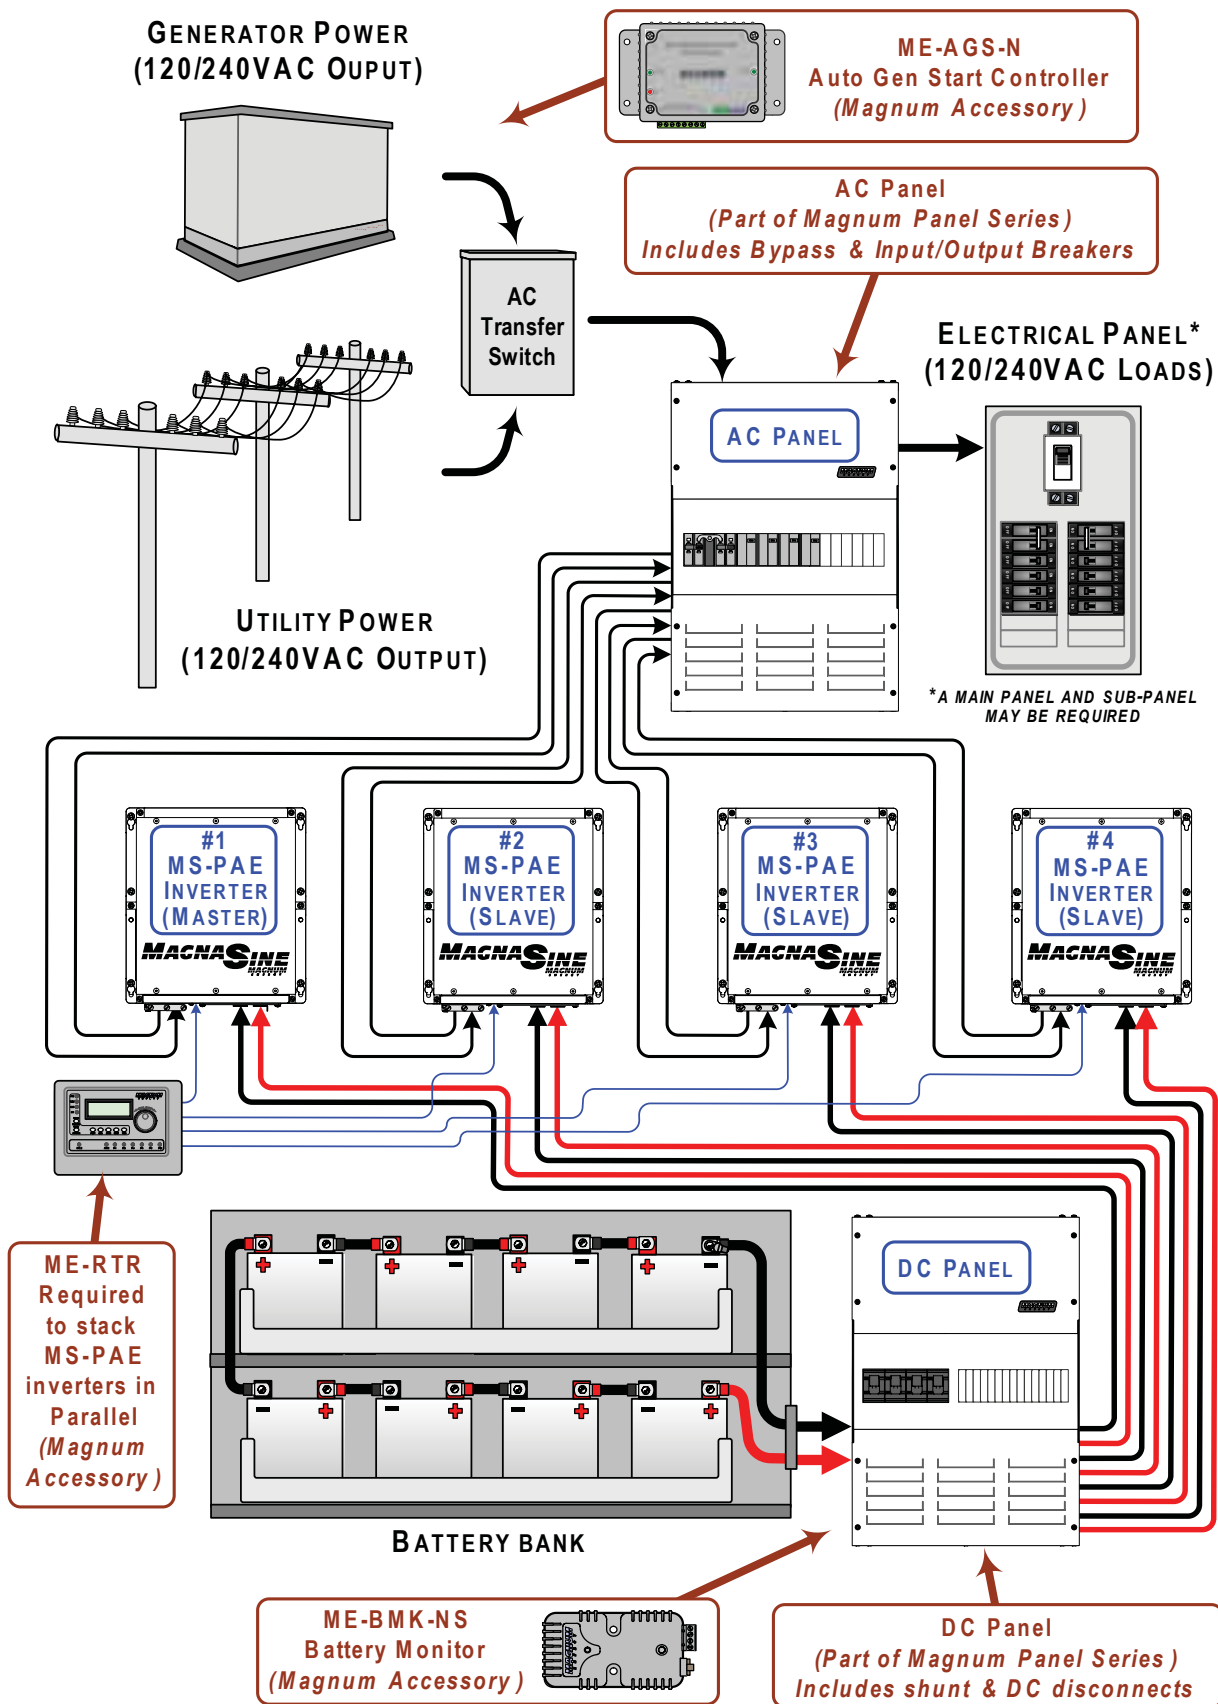
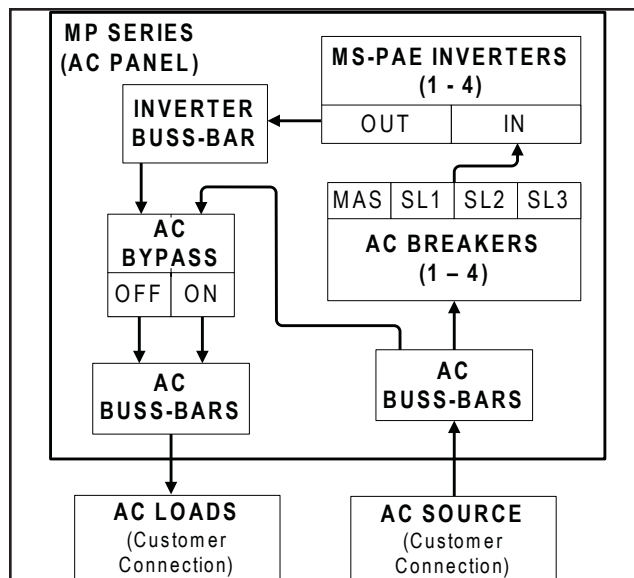

Figure 5-1, Simplified Installation Diagram - Multiple Inverters (stacked in parallel)
Figure 5-2, Simplified Magnum Panel (AC Panel)
The AC and DC connections in the parallel system depend upon other components (noted in the two section below in **bold**), but are simplified when using the Magnum Panel (MP) Series of enclosures. As shown in Figure 5-1, the AC Panel and DC Panel - which are part of the MP Series enclosures - provide these separate components; and the specific AC or DC wiring to these components are completed for you. Figures 5-2 and 5-3 are simplified diagrams of the AC and DC Panels showing the connections and components.